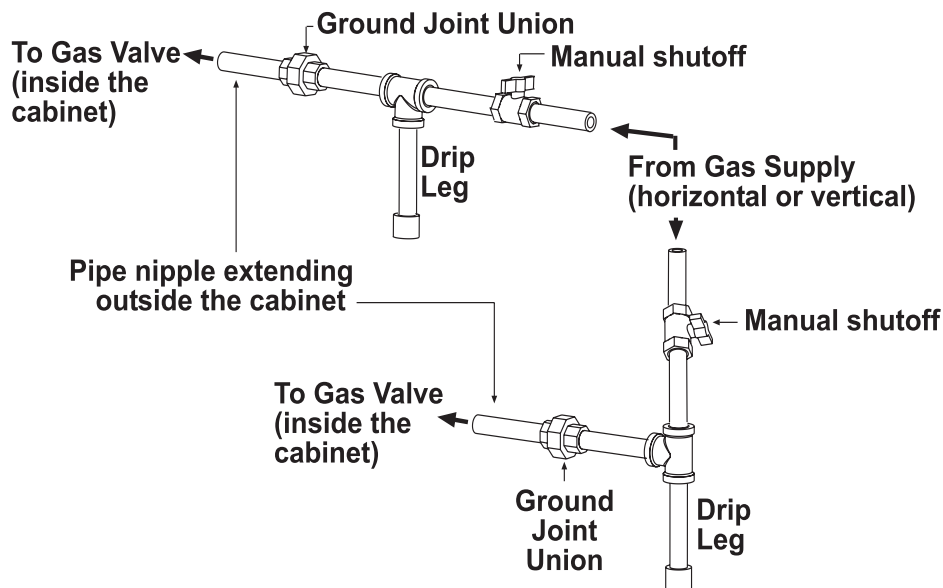

Figure 9. Gas Connections
- Install a ground joint union and manual shutoff valve upstream of the unit control system, as shown in **Figure 9**.
- The 1/8-inch plugged tapping in the manual shutoff valve in **Figure 9** provides connection for a supply line pressure test gauge.
- The *National Fuel Gas Code* requires the installation of a trap with a minimum 3-inch drip leg (see **Figure 9**). Local codes may require a drip leg longer than 3 inches (typically 6 inches). To permit burner removal, this drip leg must extend beyond the edge of the heater.
- The gas connection is made at the pipe nipple that extends outside the cabinet, as shown in **Figure 9**. Gas connection sizes are listed in **Table 13**.